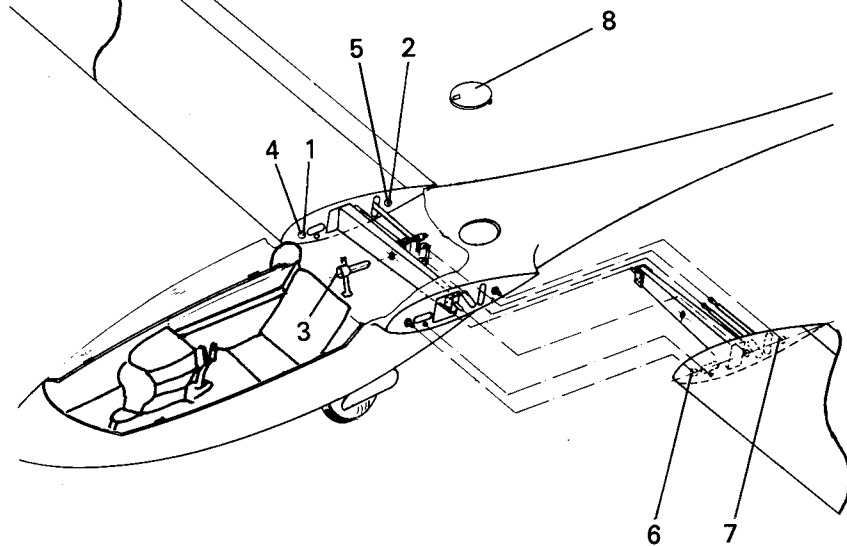
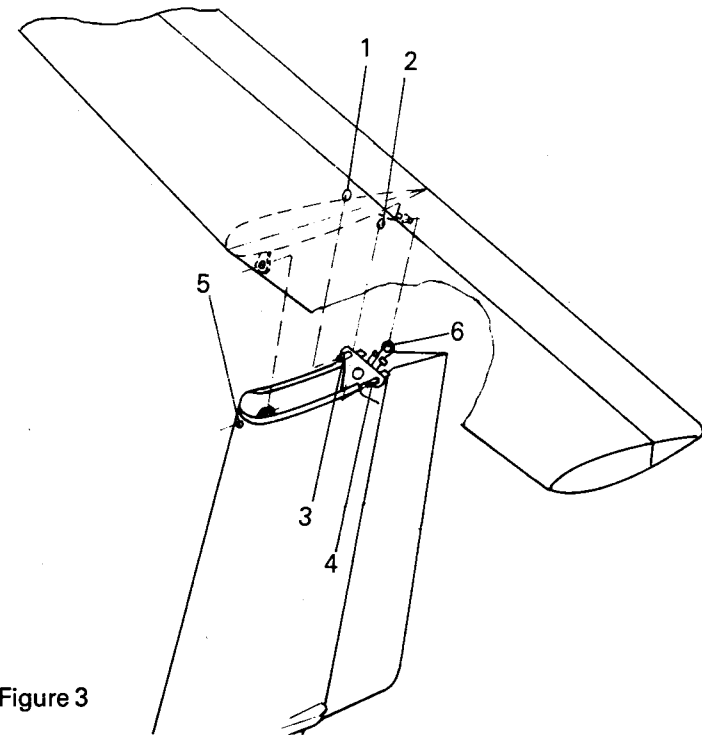

Figure 2
Figure 3
1.2. Wing assembly (Figure 2)
- Insert the right-hand wing ensuring that the wing bevel pins (1) and (2) are in the seats (4) and (5) in the fuselage.
- Insert the left-hand wing in the same way and watch that the bevel pins (6) and (7) go correctly into their seats. Draw the wings together with the wing assembly tool and install the main wing pin and secure it using a Fokker-pin. It is necessary to lift the wing tips when using the assembly tool.
- Connect the flap and airbrake control rods with quick release locks and secure them with Fokker pins. Close the inspection opening (8) on the top of the fuselage.
1.3. Tailplane assembly (Figure 3)